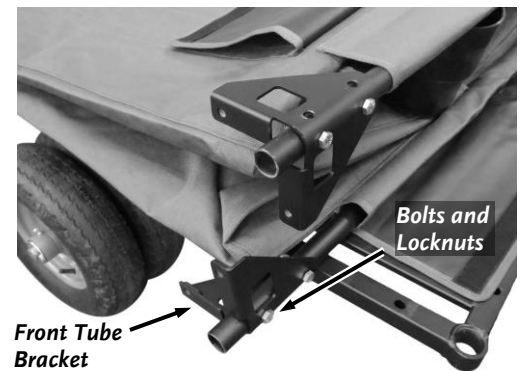

Figure 31
10. Position the Front Tube Bracket on the bottom Tube as shown and secure with two Bolts and Locknuts using two 1/2" Wrenches (**Figure 31**). Do not fully tighten. Ensure the fabric doesn't get pinched under the Bracket.